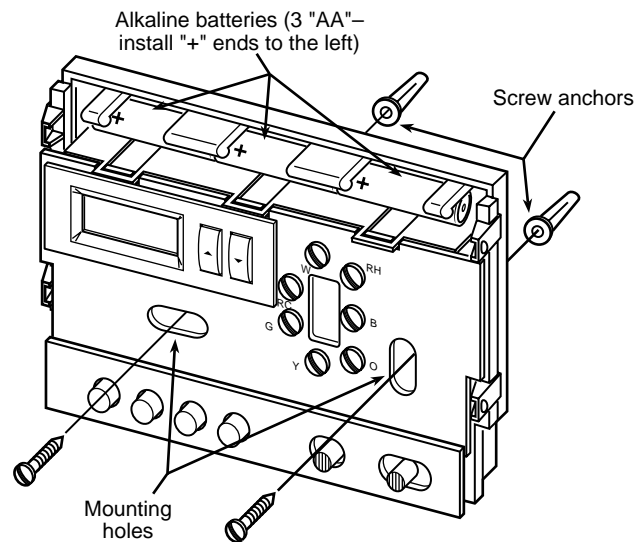

Figure 2. Thermostat base
5. Fasten base loosely to wall, as shown in fig. 2, using two mounting screws. Place a level against bottom of base, adjust until level, and then tighten screws. (Leveling is for appearance only and will not affect thermostat operation.) If you are using existing mounting holes, or if holes drilled are too large and do not allow you to tighten base snugly, use plastic screw anchors to secure subbase.
If the word **BATTERY** is displayed, the batteries are low and should be replaced with fresh “AA” Energize® alkaline batteries. To replace batteries, install the batteries along the top of the base (see fig. 2). The batteries must be installed with the positive (+) ends to the left.